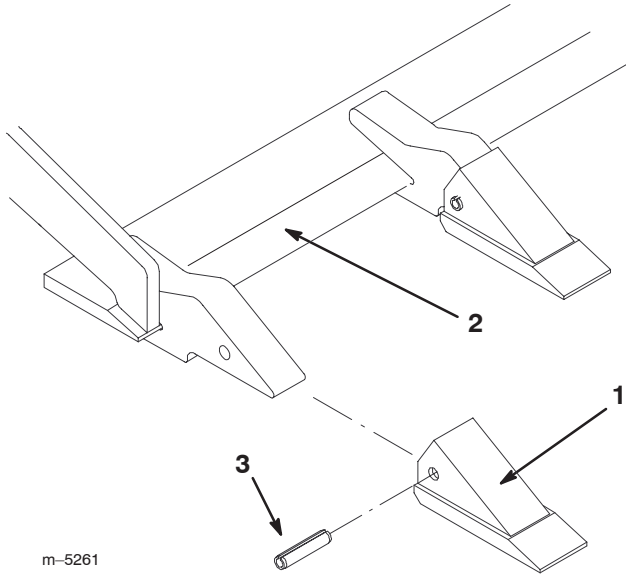

Figure 2
1. Using a hammer and punch, drive out the roll pin securing the damaged tooth and remove the tooth (Fig. 2).
2. Slide the new tooth into position on the tooth bar and secure it with a roll pin (Fig. 2).